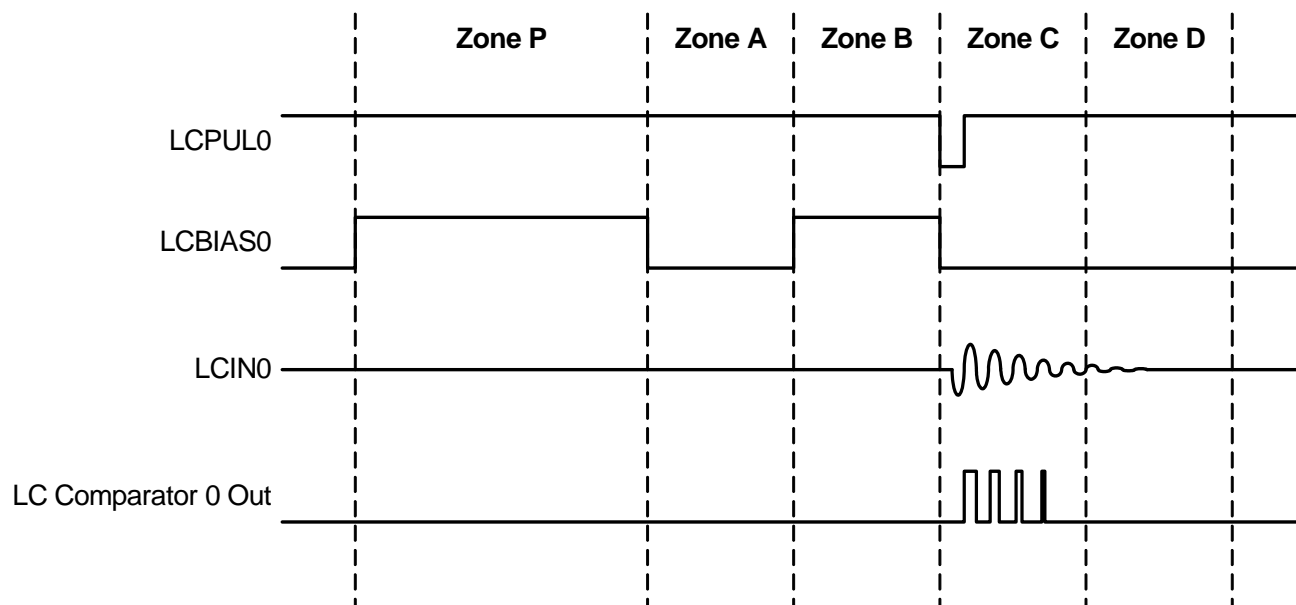

Figure 14.5. LC Resonant Timing
The LC resonant stimulus circuitry divides the sampling event into a preconditioning zone (P) and four timing zones (A, B, C, D). Timing of each zone can be configured between 1 and 8 RTC0TCLK cycles using the ZONE fields in the TIMING register. The ACCTR0_LCPUL and ACCTR0_LCBIAS pins can be pulsed during selected zones to condition and excite external circuitry. The LC peak counters can then be activated during a selected zone to capture the resulting waveform. Figure 14.5 illustrates the timing zones with some example stimulus.